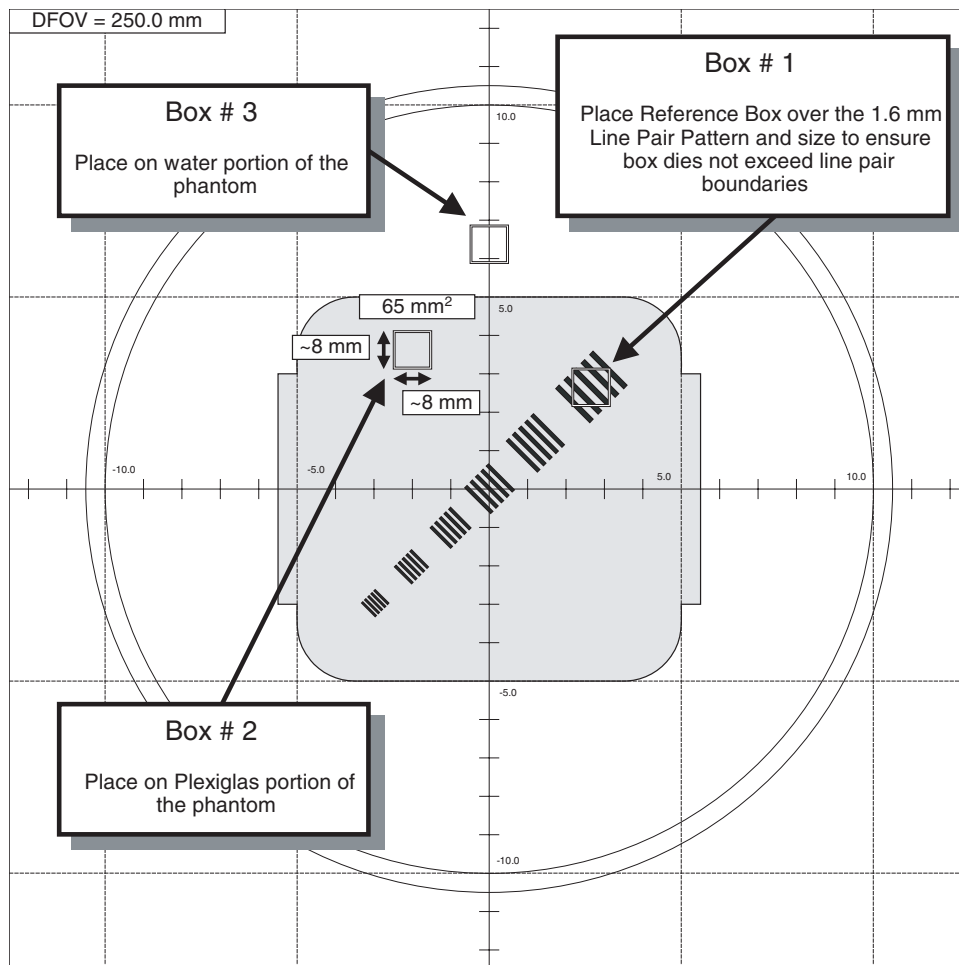

Figure 10-8 20cm QA#1 Phantom High Contrast Spatial Resolution Testing - Building And Placing Reference ROI Boxes
- c.) Adjust the size of the ROI box to be a square of approximately 8 mm x 8 mm (64 mm²) box. If required, magnify the image to adjust to the proper dimensions. (See Figure 10-8 for additional ROI size and placement information.)
If required, magnify the image to adjust to proper dimensions. (See Figure 10-8 for additional ROI placement information.)
- a.) Position the reference ROI box built in step 2 directly over the 1.6 mm Line Pair Pattern on the QA#1 phantom image. Fine adjust the size of Box #1 ROI to ensure that the box does not exceed the line pair boundaries (see Figure 10-8).
- d.) Reposition Box #2 over the plexiglas portion of the QA#1 phantom image (Box #2 position in Figure 10-8).
- g.) Reposition Box #3 over the water portion of the QA#1 phantom image (Box #3 position in Figure 10-8).